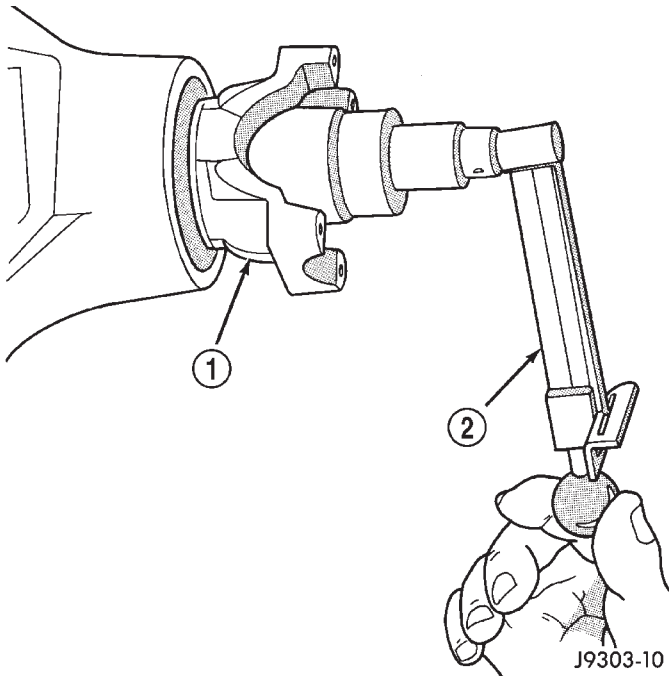

Fig. 13 Check Pinion Rotation Torque
- (3) Install the pinion washer and a new nut on the pinion gear. **Tighten the nut only enough to remove the shaft end play.**
- (4) Rotate the pinion shaft using a (in. lbs.) torque wrench. Rotating torque should be equal to the reading recorded during removal, plus an additional 0.56 N·m (5 in. lbs.) (Fig. 13).